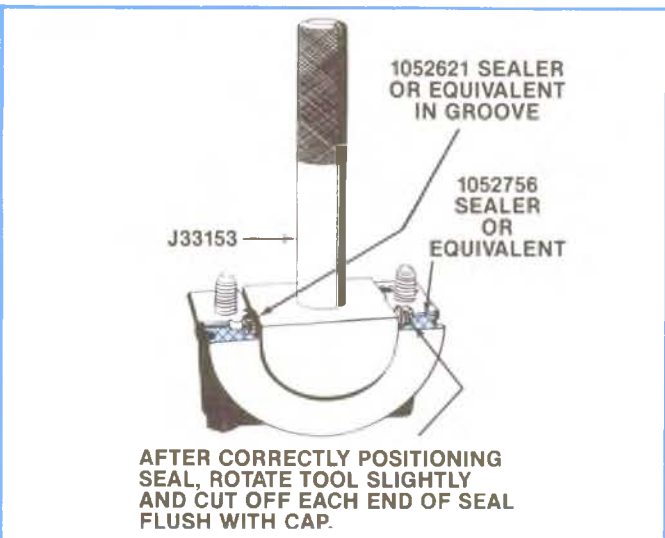

Figure 2-25, Installing Rear Main Lower Oil Seal.
2. Within one minute, install seal into bearing cap, packing by hand. Using seal installer J33153, drive seal into groove. (Figure 2-25).
7. Clean crankshaft bearing journal and seal contact. Install sealer 1052756 or equivalent on cap as shown in Figure 2-25.